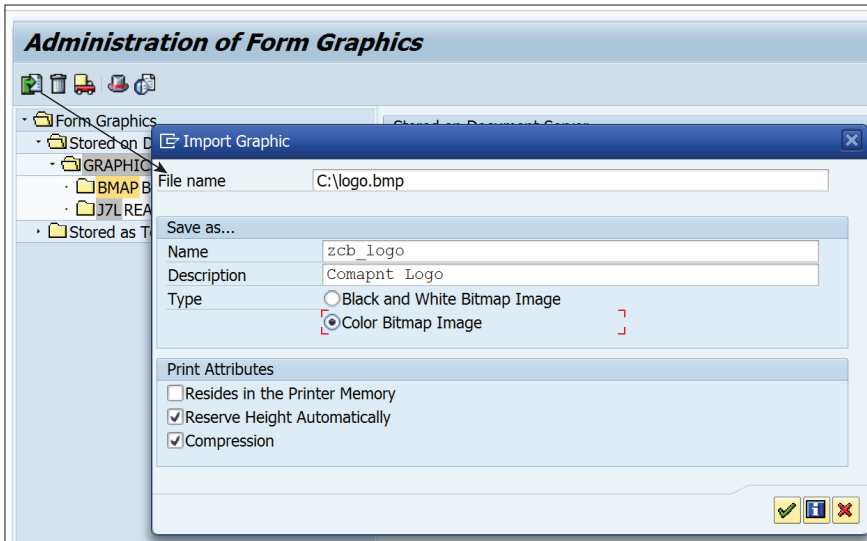

Figure 18.12 Graphics Administration
1. To print the logo in the logo window, you first need to upload the logo to the document server. To do so, open Transaction SE78 (Graphics Administration) and click the **IMPORT** button on the toolbar, as shown in Figure 18.12. Provide the file path where the logo is saved, provide a name for the logo, and maintain a short description.